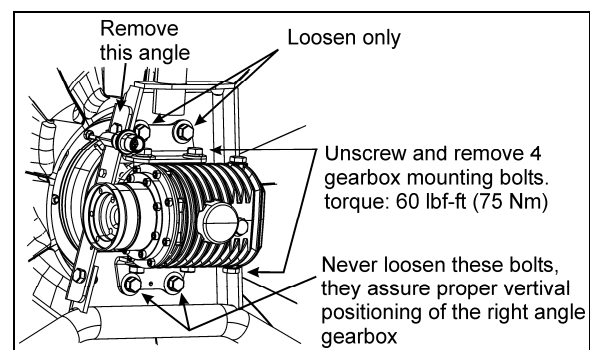

FIGURE 24: RIGHT ANGLE GEARBOX MOUNTING 05126
5. Dismount the angle (see fig. 24).